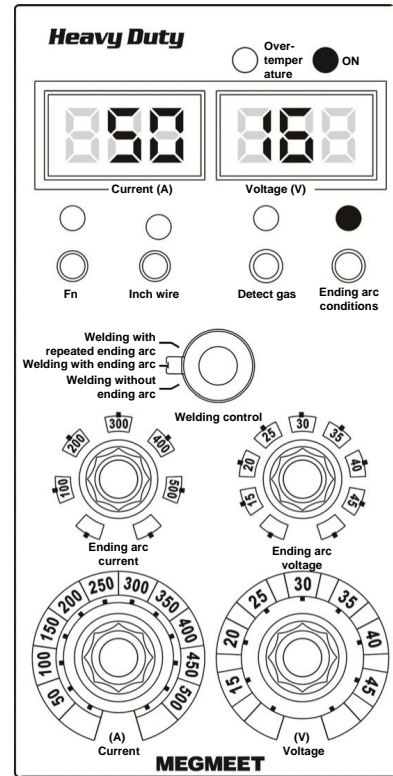

Figure 3-8 Selecting the mode of welding with ending arc
4. Figure 3-8 shows the control panel where the parameter settings are set.